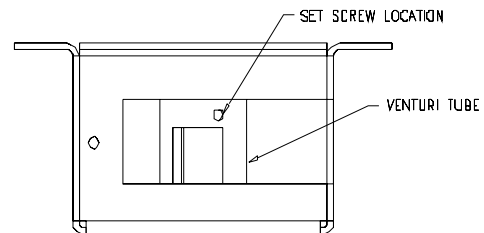

Figure 4.5 - Primary Air Adjustment
3. To adjust the primary air, loosen the Phillips screw on the Venturi tube and adjust as required (see Figure 4.5). Tighten the screw after the adjustment is complete.